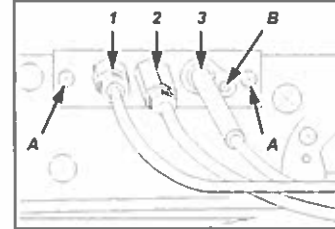

FIG.18 (REPLACEMENT DU THERMOCOUPLE, DE LA VEILLEUSE ET DE LA BOUGIE)
- DÉVISSER LA THERMOCOUPLE AVEC UNE CLEF FIXE SPÉCIALE (FIG.18-RÉF.1);
- DÉVISSER LES 2 VIS DU SUPPORT (FIG.18-RÉF.A);RÉMONTER LA NOUVELLE VEILLEUSE (FIG.18-RÉF.2) SELON LES PHASES SUSMENTIONNÉES;
- ENLEVER LA BOUGIE EN DÉVISSANT LA VIS (FIG.18-RÉF.B);
- RÉMONTER LA NOUVELLE BOUGIE (FIG.18-RÉF.3) SELON LES PHASES SUSMENTIONNÉES